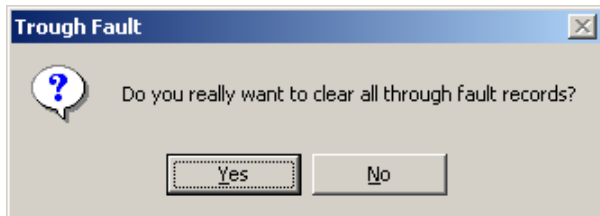

Figure 2-28 Clear Through Fault Record Confirmation Screen
1. From the IPScom[®] Main Screen menu select **Relay/Through Fault/Clear**. IPScom will display the Clear Through Fault record confirmation screen (Figure 2-28).